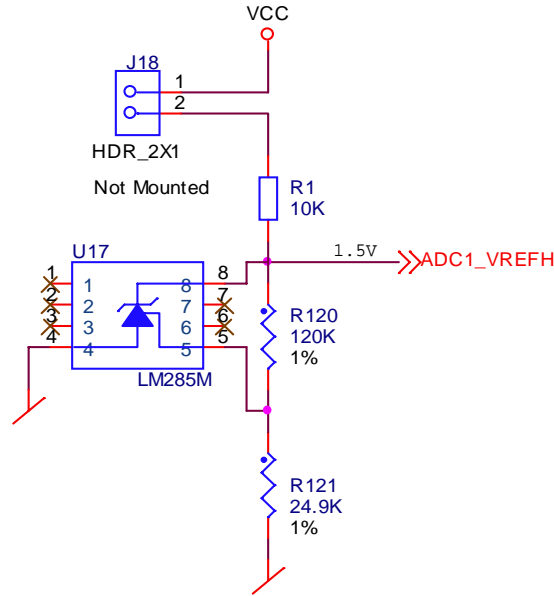

Figure 4-5. ADC Voltage 1.5 Vdc Voltage Reference
- A fixed voltage reference for ADC1_VREFH is provided (see Figure 4-5).